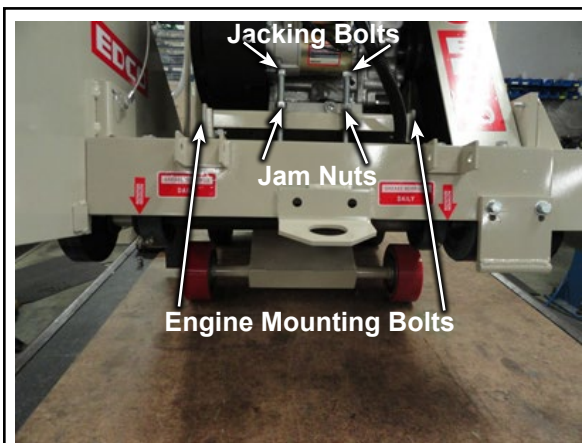

Figure 10
- Loosen engine mount mounting bolts and jam nuts, then turn jacking bolts to lift or lower engine mount. Lift engine to tighten belts lower engine to loosen/replace belts. (Figure 10)
- Remove belt guard and arbor guard. Loosen engine mounting bolts and jam nuts, turn jacking bolts to lower engine (Figure 10 thru 15) to a point where the belts can be removed.